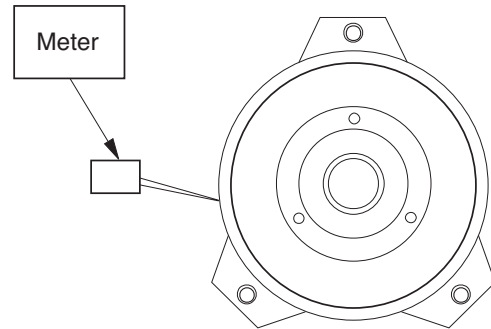

Figure 1
4. Connect meter lead wires to the wires in the clutch connector. (Figure 1)